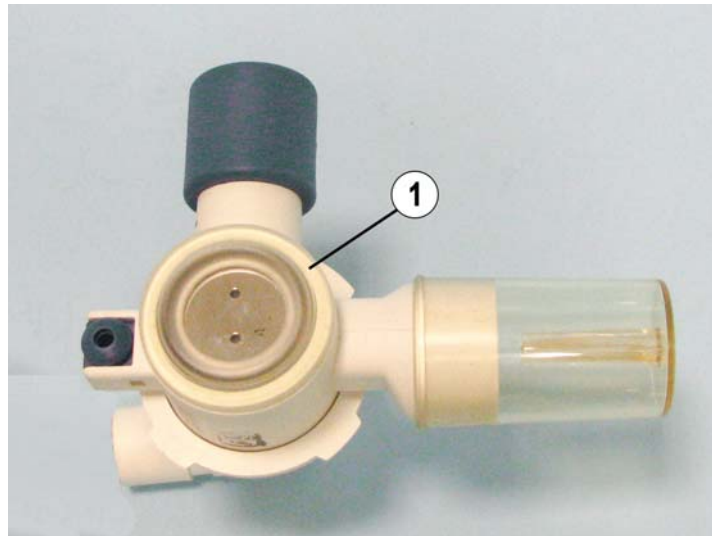

Fig. 39 Expiratory valve; diaphragm
5. Remove the diaphragm (Fig. 39/1) from the expiratory valve.